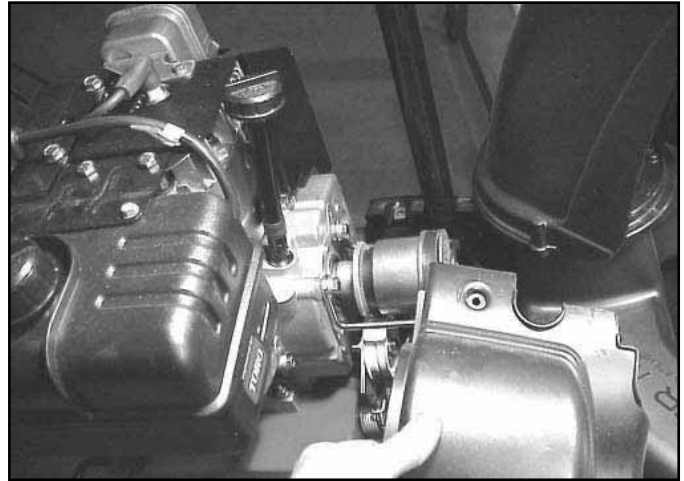

Fig 136
19. Move snowthrower to the upright position and remove belt cover (Fig. 136).